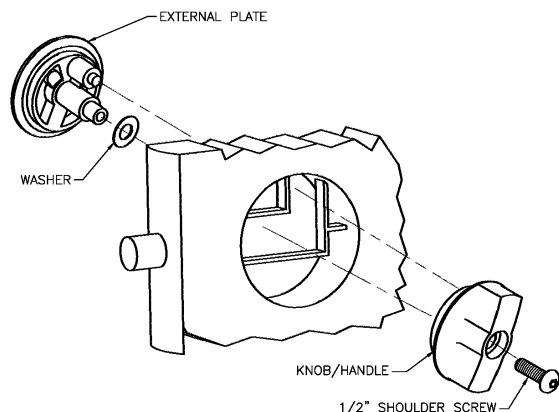

Figure 9B
- f. Mount external plate and knob. Remove clear plastic retainer holding spring washer in place on the post of the external plate. Insert the external plate into door as shown in Figure 9B, with the shorter post inserted into the upper pocket of the internal latch mechanism. Mount the knob/handle on the inside of the door and engage it with both the center post and the shorter, off-center post of the external plate. Insert $\frac{1}{2}$ " shoulder screw with blue tip through the knob/handle and tighten until snug. Check for proper operation of knob and latch pin before final tightening.
- g. Locate strike/keeper on the latch-side pilaster so the latch pin engages with it when the door is closed. Drill ($\frac{1}{4}$ " bit) mounting holes and secure strike/keeper to pilaster using thru bolt (1), with black rubber bumper facing out for outswing doors and in for inswing doors.